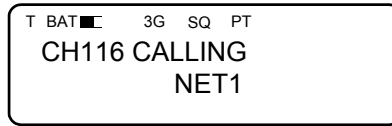

Figure 3-26. Net Call Screen
- e. If the call type is **MANUAL**, the AN/PRC-150(C) prompts the user for the channel number to place the call on.
- f. KDU displays call status. See Figure 3-26.